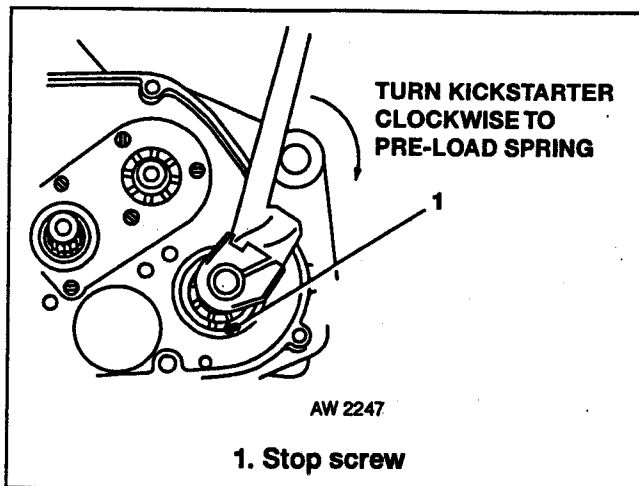

Fig 2.35 Kick-Start Spring Pre-Loading
- c. Install the kick-start lever and pre-load the return spring approximately 1 turn clockwise (Fig 2.35 refers).